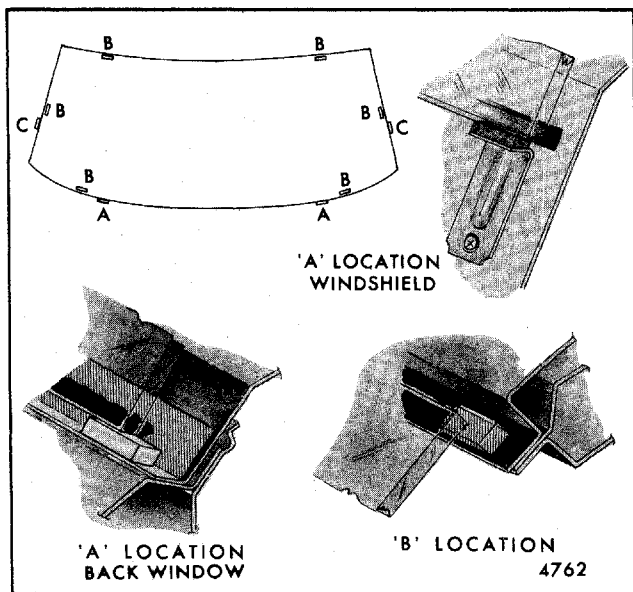

Fig. 11-9-Glass Spacer Installation
2. Locate lower support spacers as indicated in Figure 11-9 (A location) and position glass in the window opening. If new glass is being installed, check relationship of glass to adhesive material on pinchweld flange. Gaps in excess of 3 mm (1/8") must be corrected by shimming or
3. Using black weatherstrip adhesive or adhesive material, cement flat rubber spacers to window opening pinchweld flanges. As shown in Figure 11-9, location B, spacers should be positioned to provide equal support around entire perimeter of glass.
4. Figure 11-9, location A, illustrates rectangular spacer positioned in typical back window installation. Reinstall metal supports at lower edge of windshield glass (in lieu of two lower A spacers indicated in back window installation).
- a. Stand off spacers for maintaining glass 5 mm (3/16") from body opening - see location B, Figure 11-9.
- b. Lower and side support spacers - see locations A and C, Figure 11-9.